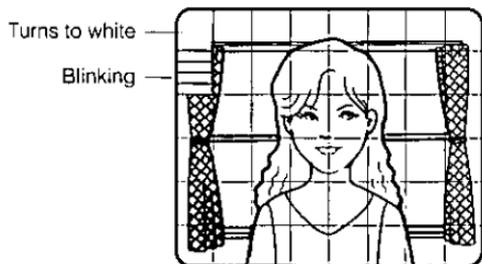

Fig. 44
- To mask other areas, move the cursor to the desired area by using the Up Switch (Λ) (8), Down Switch (∇) (5), Left Switch (<) (7) or Right Switch (>) (6). Then press the Set Switch (9) to mask that area. The area turns to white as show in Fig. 44.